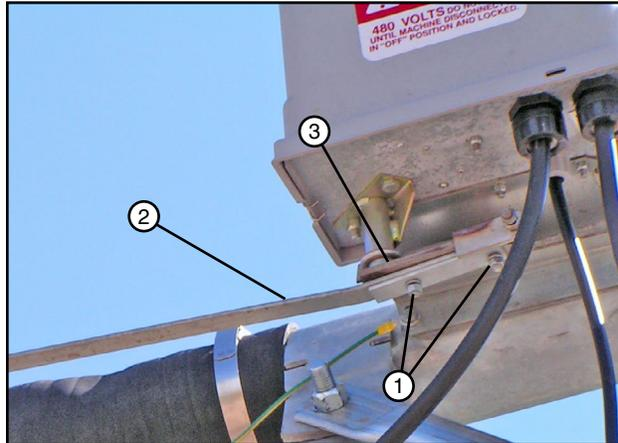

Figure 70-1 1. Hardware
1. Loosen the hardware securing control bar to the switch pivot arm. See figures 70-1 and 70-2.
2. Adjust the jam nuts clockwise or counter-clockwise no more than 1/4 of a turn at one time. See figures 70-1 and 70-2, and the adjustment chart in Figure 69-3.